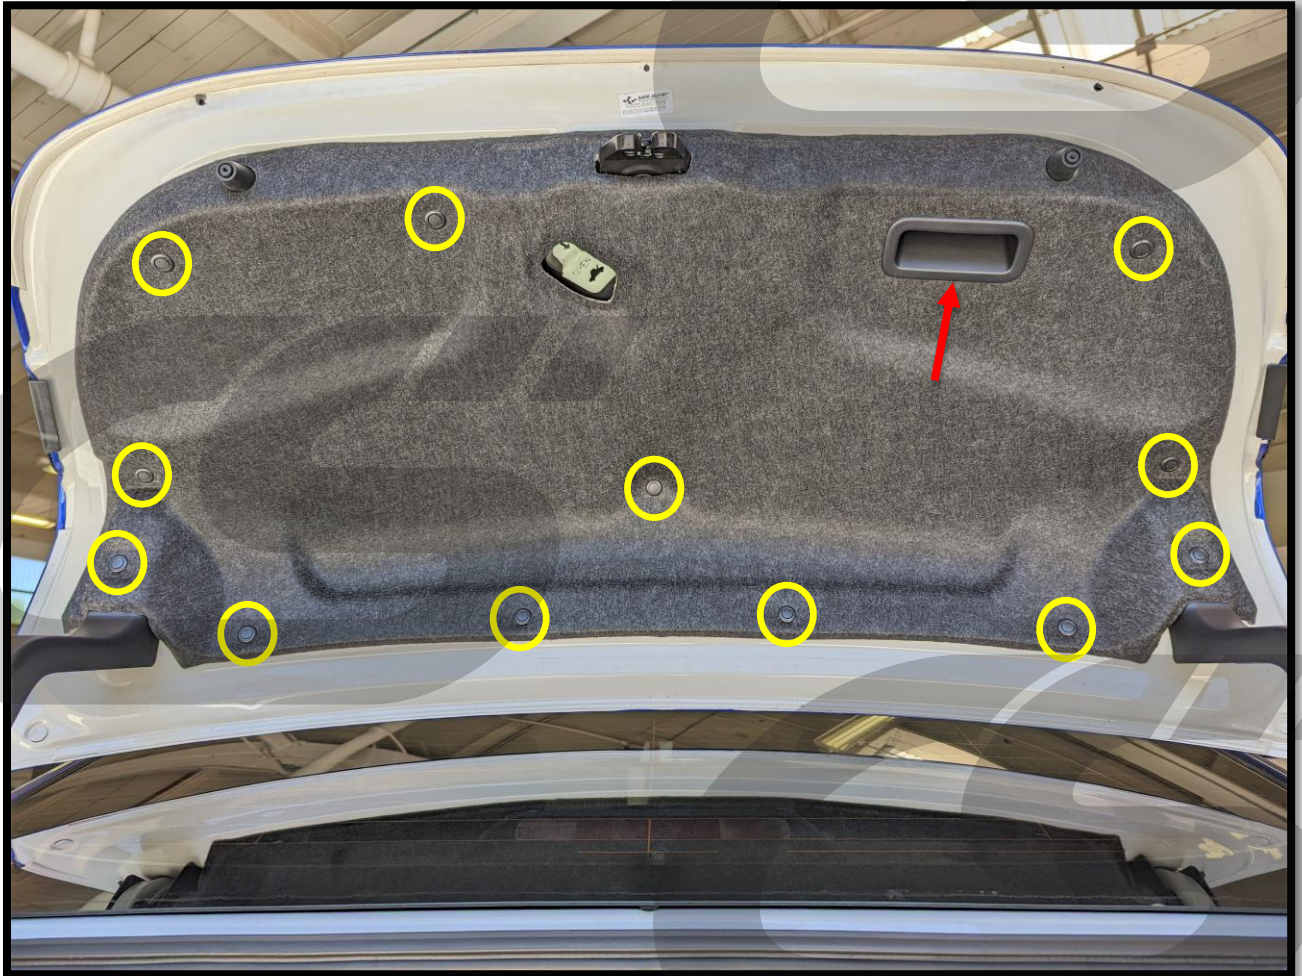

Figure 1a
- a) Open up the trunk and remove the clips circled in **Figure 1a** by using a flat head screwdriver to release the center of the clips.
- b) Remove the handle by using a flat head screwdriver to pry the bottom edge out as shown with the red arrow in **Figure 1a**.